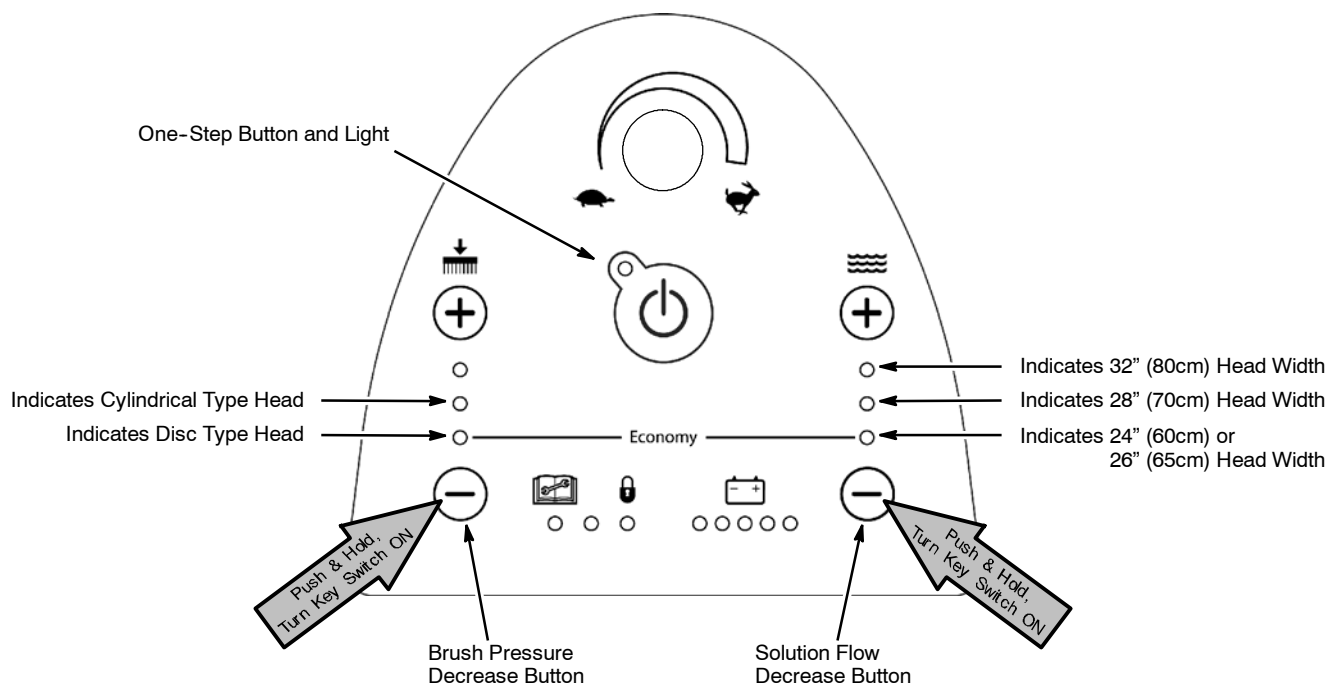

Fig. 8
1. Simultaneously hold down the Brush Pressure Decrease (-) button and the Solution Flow Decrease (-) button when turning on the key switch. Hold the buttons until a Down Pressure LED and a Solution LED are illuminated. This displays the current machine configuration (Figure 8).
2. **To change the scrub head setting**, press and hold the One-Step button for five seconds until the One-Step button starts to blink. Use the Brush Pressure Increase (+) button to change the scrub head type. Use the Solution Flow Increase (+) button to change the scrub head size (Figure 8).